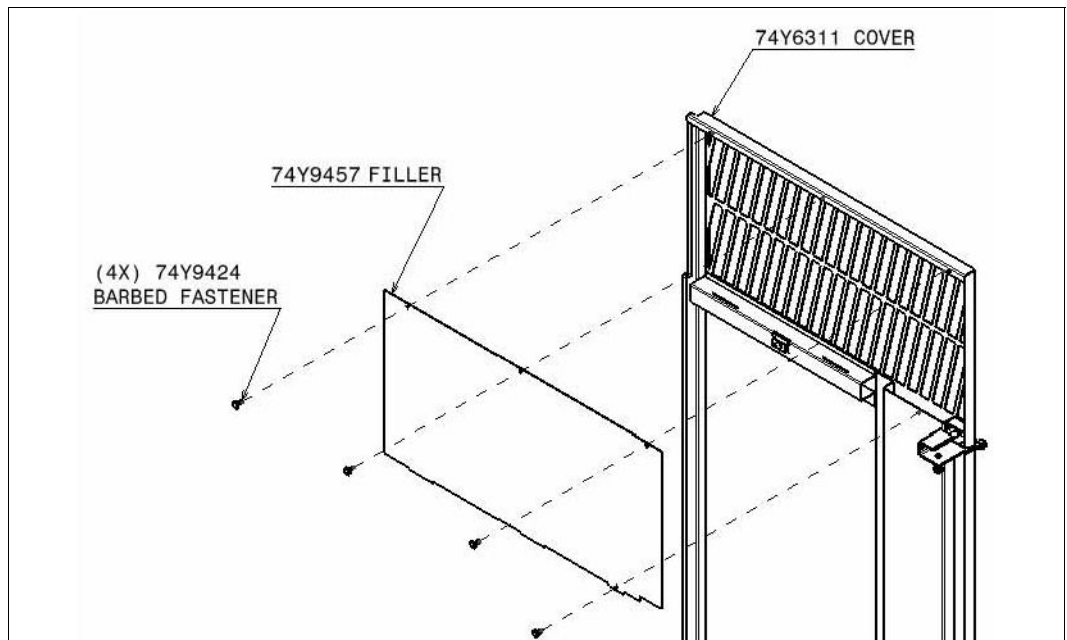

Figure 1-48 Full filler installation on the front left cover when an I/O enclosure is not installed
2. Install the full filler panels (part number 74Y9457) on the front left cover (part number 74Y6311), as shown in Figure 1-48.